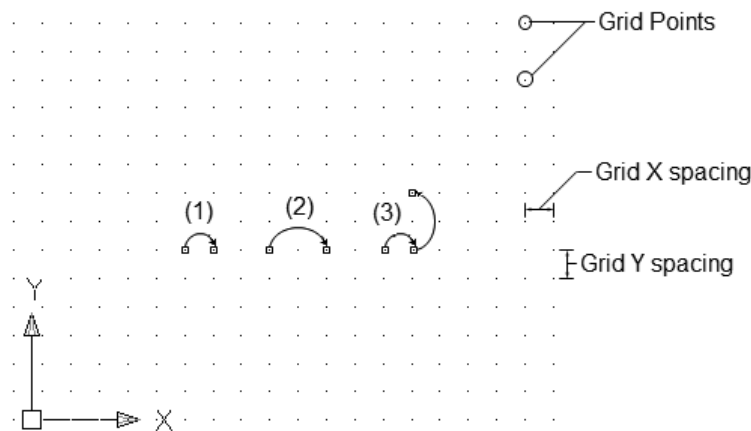

Figure 3-5 Different grid snapping options with grid details
In the snap to grid mode, if you move the cursor in the XY-plane, the cursor will snap to the adjacent grid point, refer to (1) in Figure 3-5.
In the snap to spacing mode, if you modify the snap spacing without changing the grid spacing, the cursor will snap to the grid point located at the modified snap spacing, refer to (2) in Figure 3-5.
In the snap to unequal X spacing and Y spacing, if the snap spacings in the X axis and the Y axis are different, then the cursor will trace the next grid point with the corresponding snap spacing given in the X and Y axes, refer to (3) in Figure 3-5.